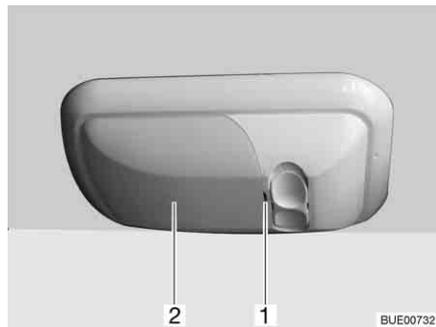

Fig. 280 Garage light
- Use a suitable tool (e.g. a screwdriver) to carefully lever out the cover (Fig. 280,2) at the notch (Fig. 280,1) and remove it.